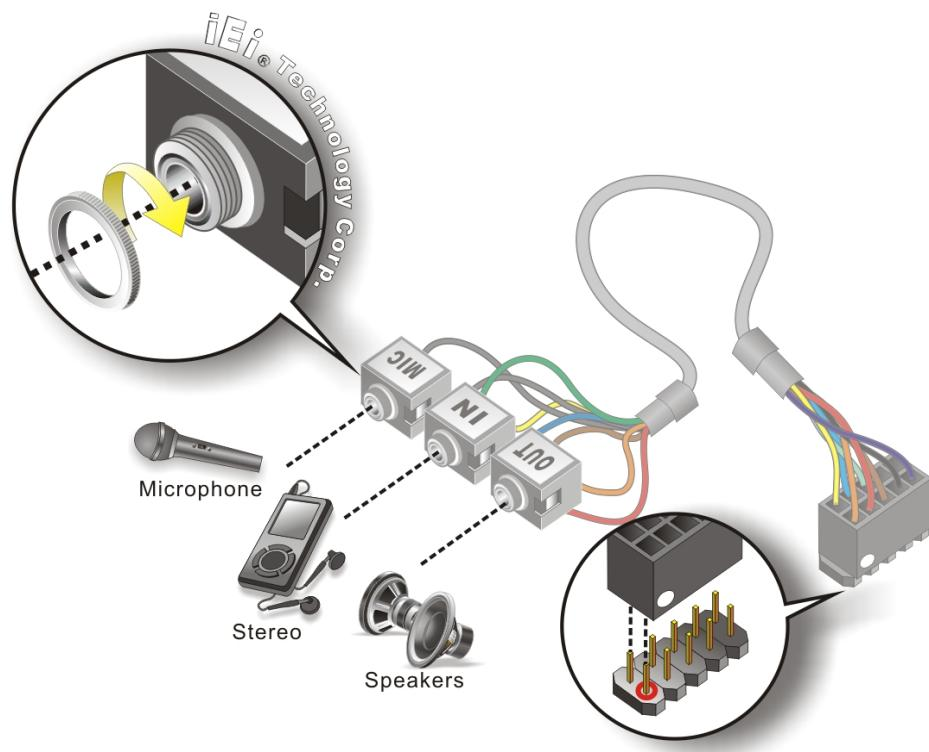

Figure 4-15: Audio Kit Cable Connection
Step 9: Align pin 1. Align pin 1 on the on-board connector with pin 1 on the audio kit connector. Pin 1 on the audio kit connector is indicated with a white dot. See Figure 4-15.